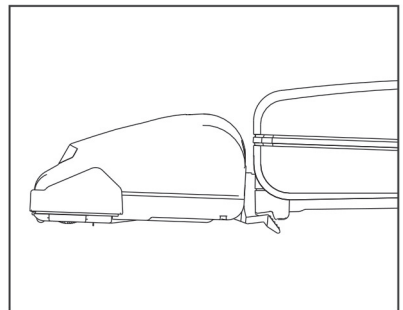

Fig. 2
2. Continue to lower the handle to enable the vacuum to lay flat on the floor (Fig. 2).